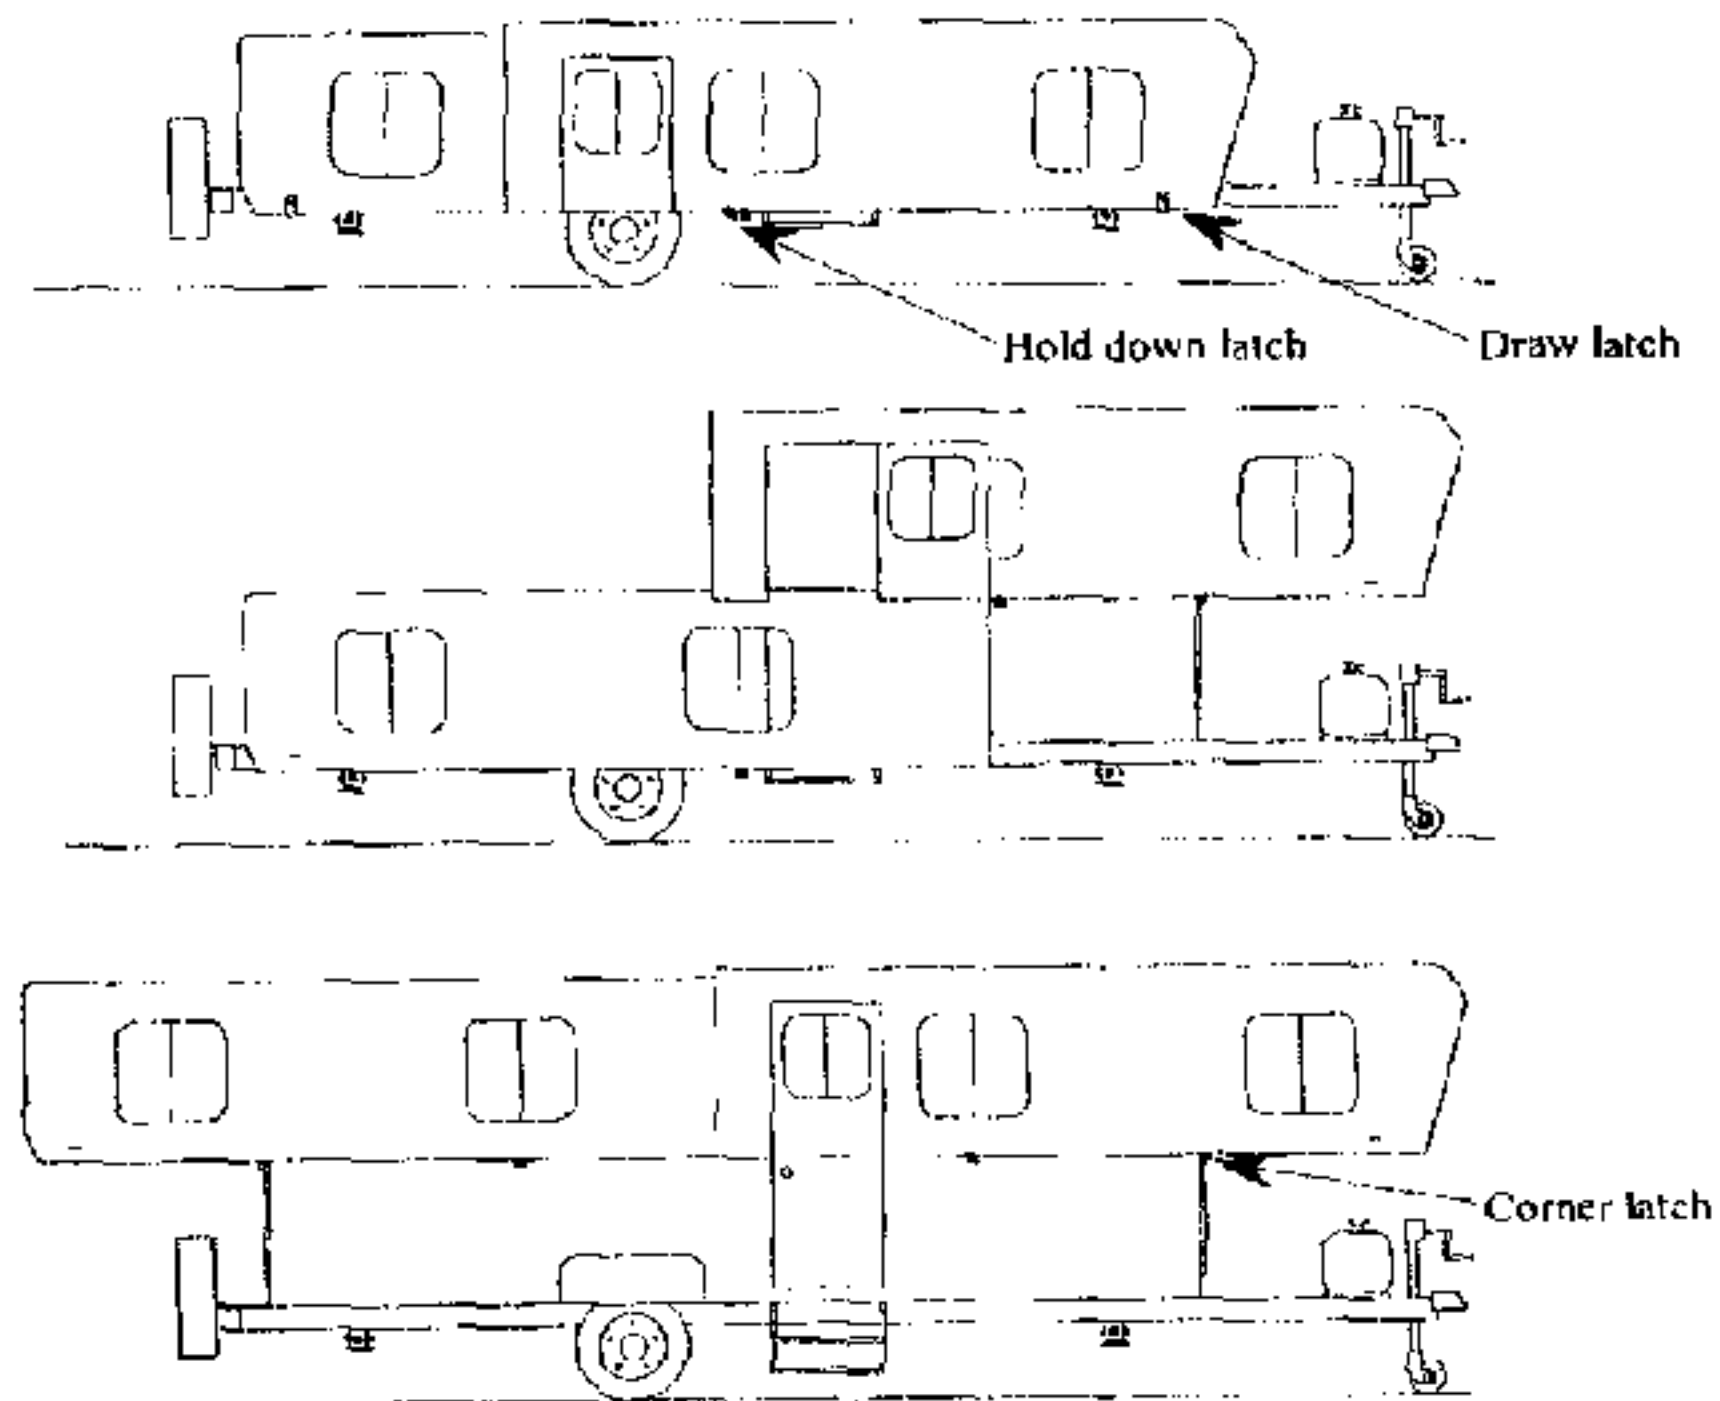

Figure 1. Trailer Operation
1. Release the four white draw latches located on each corner. (See Figure 1.)
2. Release the four black hold down latches located in the middle of your trailer, two on each side at the lower edge near the wheels. (See Figure 1.)
4. Engage the two top corner latches (square aluminum tubes, Figure 1). **NOTE:** For front slide models, after lifting the roof section and securing in place with the corner latches; grasp handle above gas bottles and pull living room section out toward you.
13. Unlatch the two rear top corner latches (square aluminum tubes, see Figure 1). Be sure to slide rear bed in completely. Ensure that all draw latches are oriented with the hook facing outward (to prevent latches from being captured between the lift arm and the wall during closing). Close rear roof by pushing at the center of the rear wall. If necessary, pull down on the roof until the rear wall contacts both of the rubber bumpers on the frame. (The roof may spring back up slightly. This should not affect latching.) During latching, you may need to push the walls in for proper latch alignment.